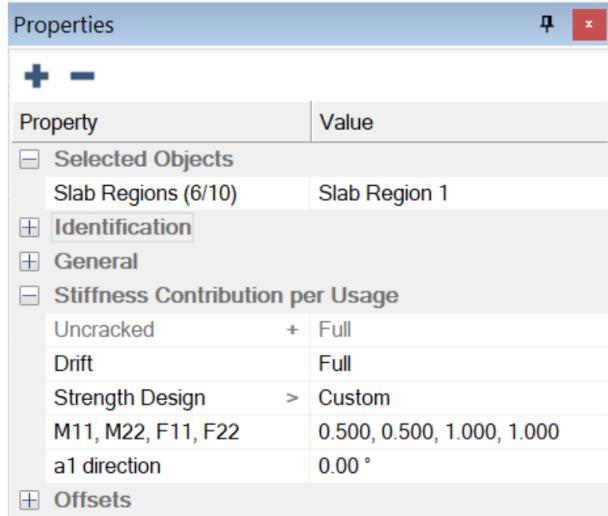

FIGURE 12-3
- In the text box next to *M11, M22, F11, F22*, change the M11 and M22 values to **0.5**, as shown in **FIGURE 12-3**.